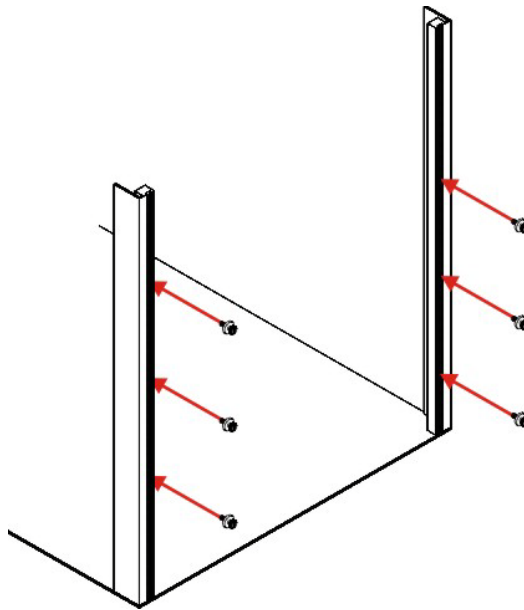

Figure 5-15: Rack Mounting Nuts and Bolts Installation (DM-190)
Step 1: Insert and tighten the supplied mounting nuts and bolts to the rack for the rack mounting bracket. Each bracket requires three nuts and bolts for installation. (See **Figure 5-15**)